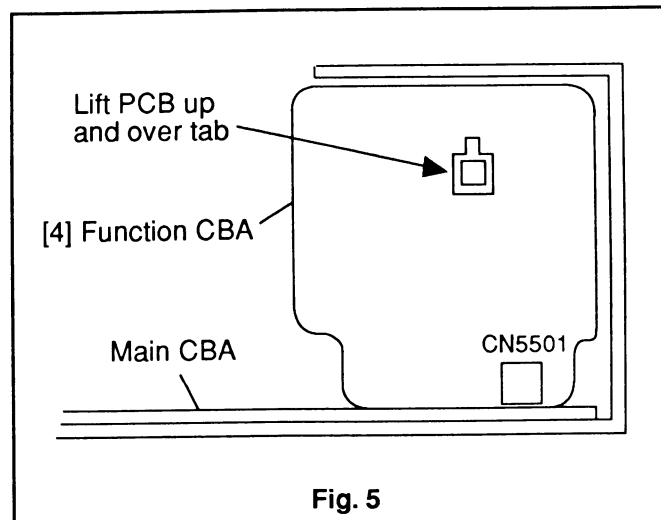

Fig. 5
3. Disconnect Connector (CN5501) to remove the Function CBA. Hold the Main CBA while pulling up the Function CBA. (Fig. 5)